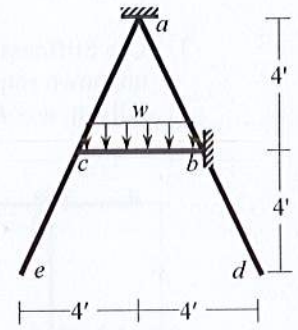

Fig.11
10. Frame structure  $abcde$  shown in Fig.11 is subjected to a dynamic load,  $w = 4.4e' \text{ (k/ft)}$ . Use Constant Average Acceleration (CAA) Method to calculate the rotation of joint  $c$  at time  $t = 0.10 \text{ sec}$